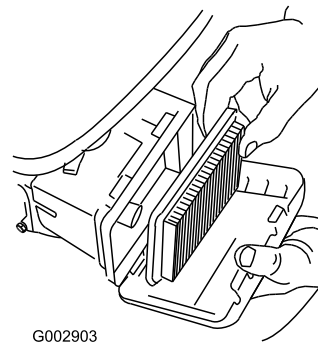

Figure 37
3. Remove the air filter (Figure 37).